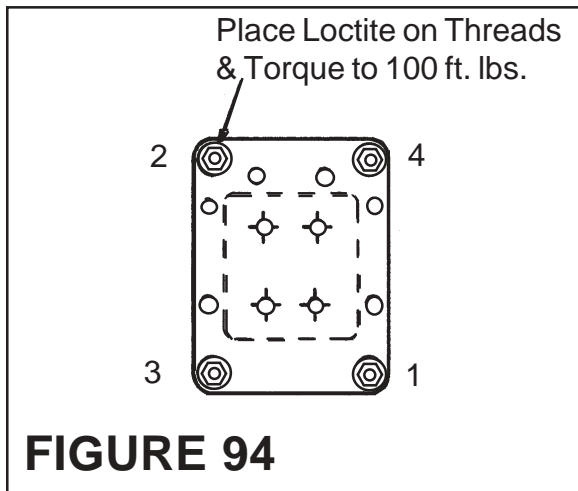

**FIGURE 92**
5. Measure the distance that the rods extend through the top mount plate, this needs to be 7/8" to 15/16". To get this height adjust the two jam nuts by the buck plate. Once the required distance is achieved place thread locking compound on the threads and lock the two nuts together. (See FIGURE 92).